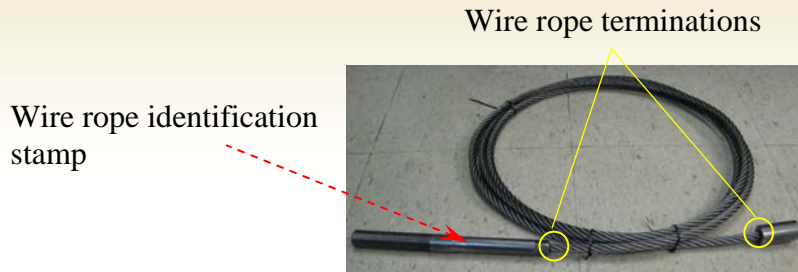

Figure 1 Wire rope identification stamp and terminations.
(Figure 1)
3. Three or more broken wires at rope terminations (Figure 1).